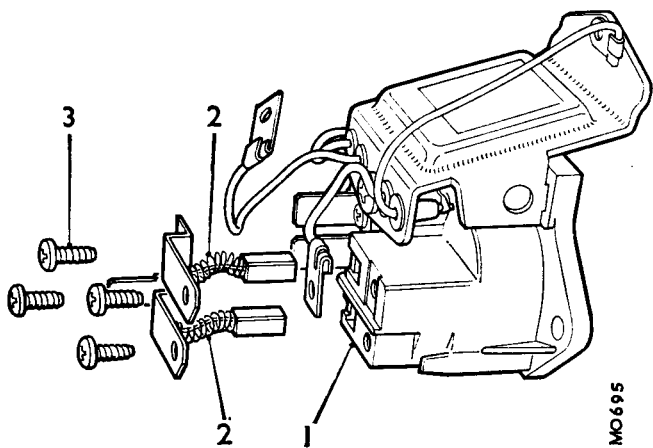

Fig. Nb.16
- 3. Retaining screws (4).
- 27. Check the brush spring pressure using a push-type spring gauge. The gauge should register 7 to 10 oz. (198 to 283 gm.) when the brush is pushed back until its face is flush with the housing. If the gauge reading is outside the limits given, renew the brush assembly, as shown in Fig. Nb.16.